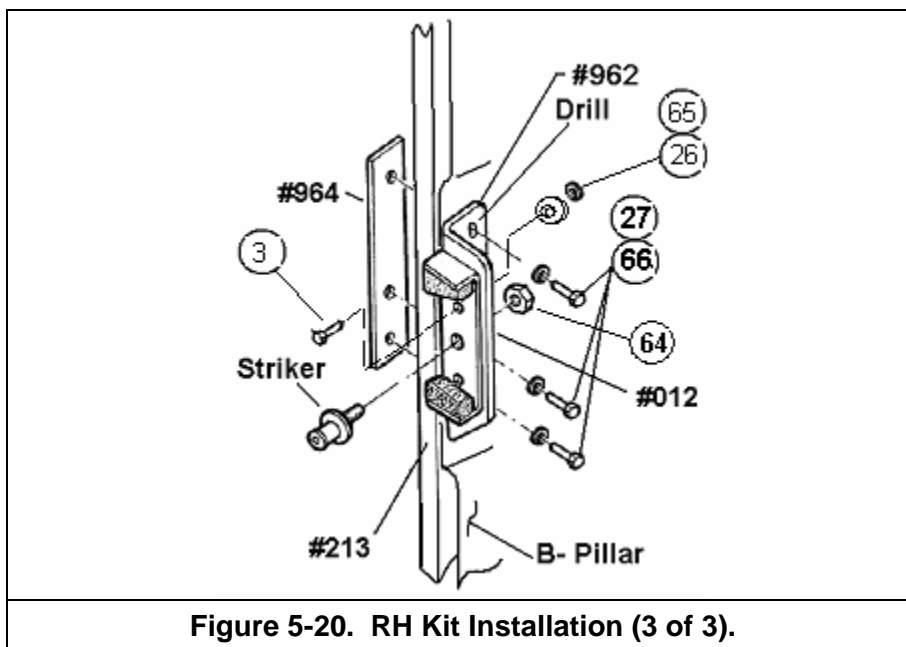

Figure 5-20. RH Kit Installation (3 of 3).
8. Temporarily secure Bracket #962 in position as shown in Figure 5-20 using the 2 lower fasteners. Mark the location for the upper hole on the B-pillar. Remove Bracket #962.
10. Install fasteners and components as shown in Figure 5-20.